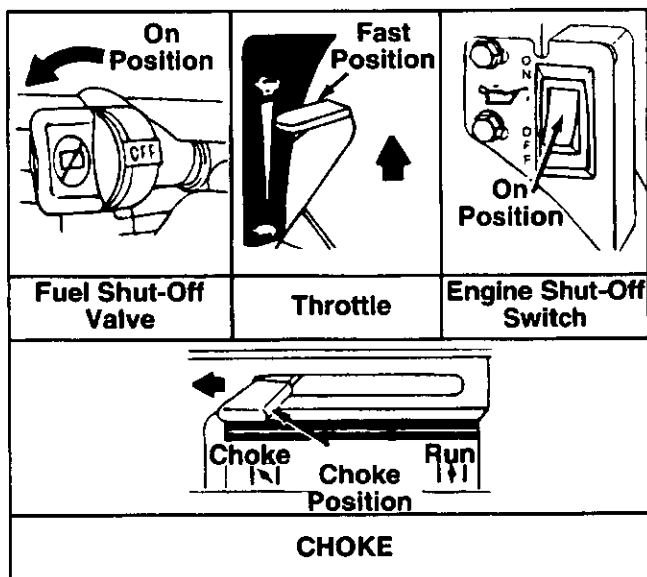

FIGURE 13.
- Open fuel shut-off valve by turning in direction of arrow. See figure 13.
- Place the throttle control lever in FAST position. See figure 13.
- Place the engine shut-off switch in ON position. See figure 13.
NOTE: If engine does not fire after three attempts, move choke lever halfway between CHOKE and RUN position and try again. See figure 13.
- Move engine shut-off switch to OFF position. See figure 13.